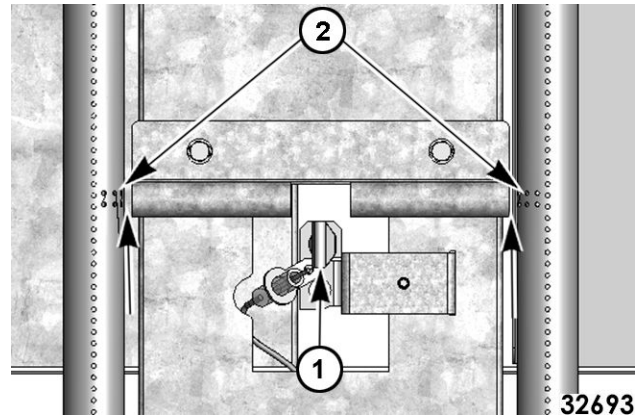

Fig. 18
4. With pilot (1, Fig. 18) centered in flash tube opening, center align ignition ports with both sides of flash tube (2, Fig. 18). Verify 1/8" gap between the end of flash tube and burner on both sides.